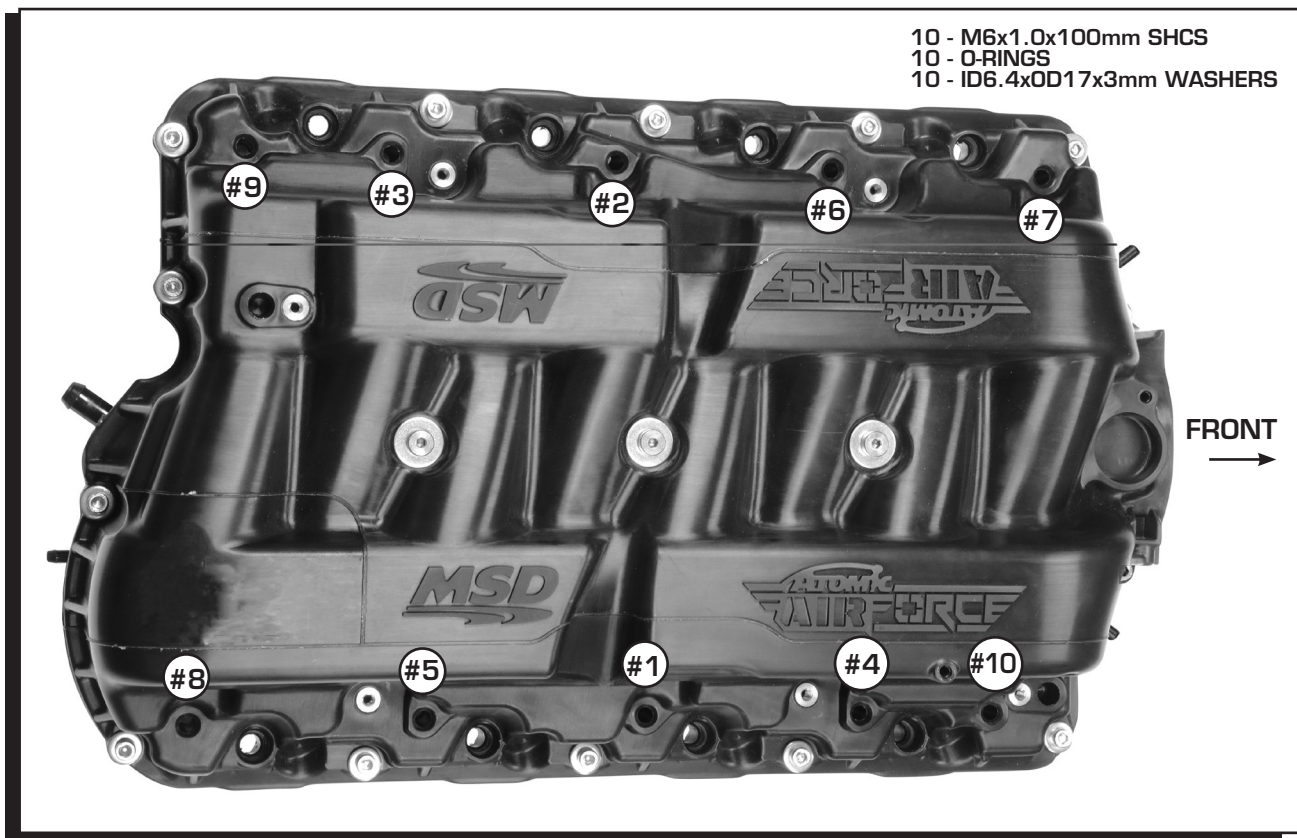

Figure 11 Intake-to-Cylinder Head Torque Sequence.
4. Tighten the 10 Socket Head Cap Screws (SHCS) using the sequence shown in Figure 11. Use multiple passes (a minimum of four are recommended) to achieve a final torque of 89 lb-in.